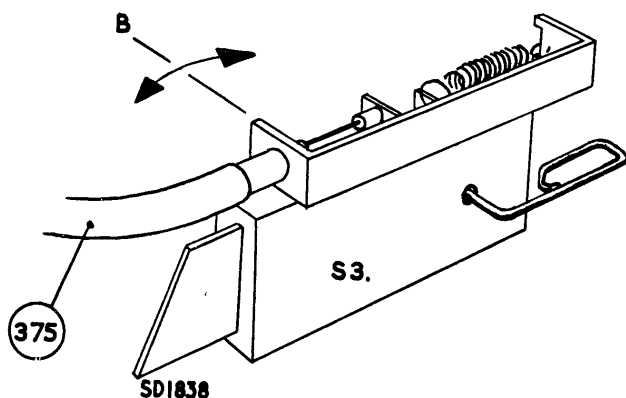

Fig. 14
- (i) This cable is checked after replacement in a similar manner. With the track selector switch S3 in position 2-3 (button up), it should be possible to pass the test wire through switch via holes (see Fig. 14). Adjust position of slider on cable end.